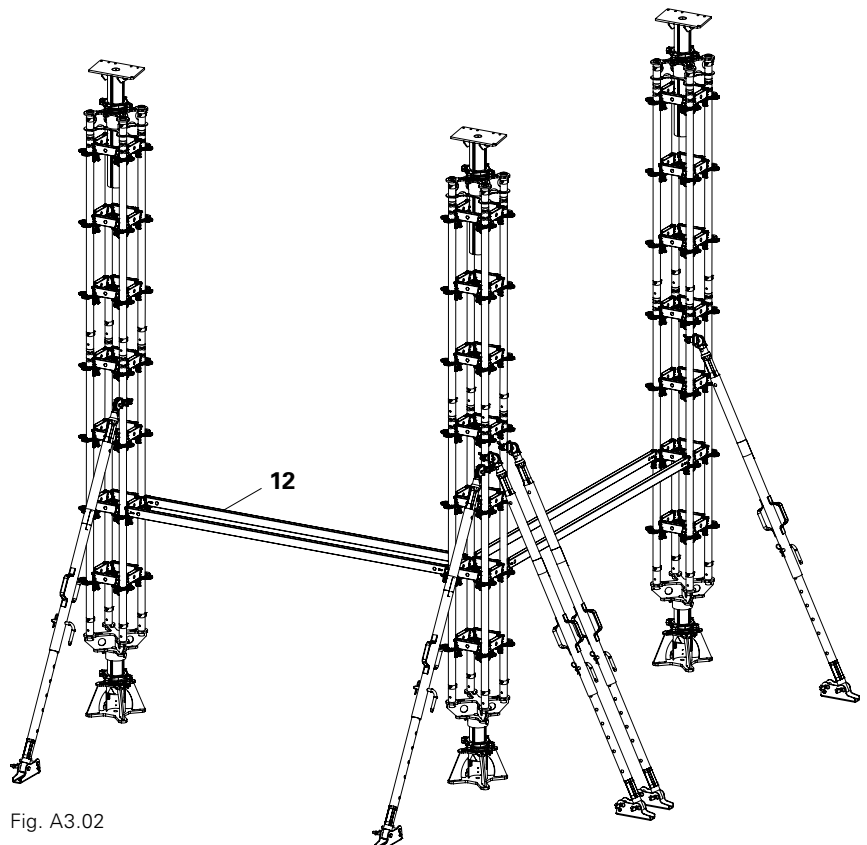

Fig. A3.02
2. Attach Ledgers (12) to rosetts and secure with hammer. (Fig. A3.02)